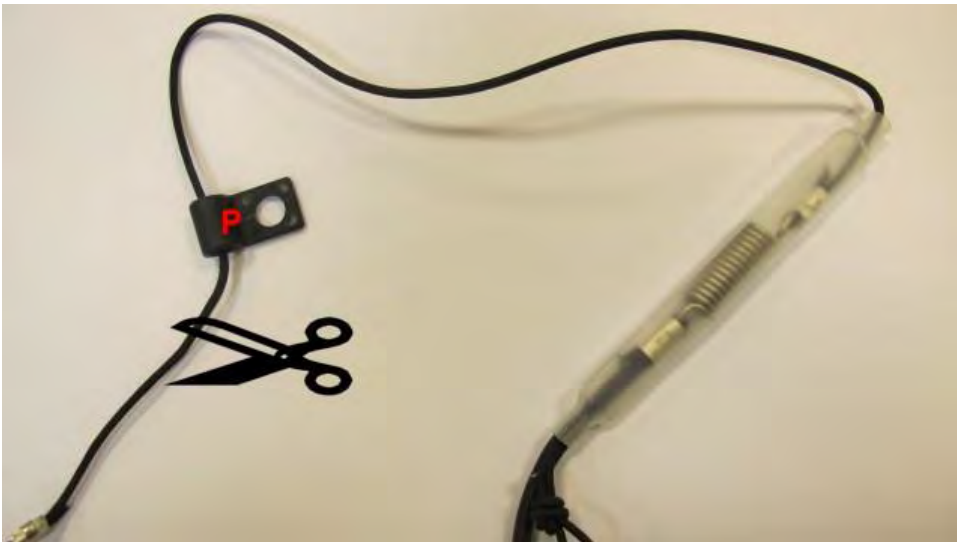

Figure 5c
The required part, cord guide (P), can be produced by cutting the part from a cord assembly contained in convertible roof repair kit 3W7898025 (see Figure 5c)